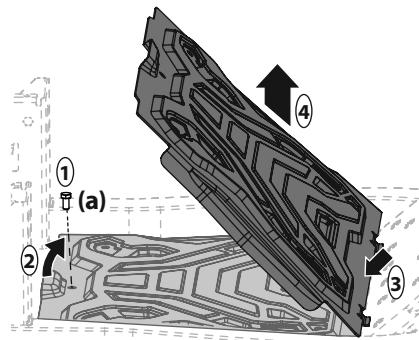

Figure 33
- Using the multi-tool (if equipped) or a 1/2" socket, remove the hex screw (a) that secures the floor panel in place. See 1 in Figure 33
- Carefully lift the rear of the floor panel. See 2 in Figure 33.
- Slide the floor panel rearward to free the front of the floor panel. See 3 in Figure 33.
- Lift it off the tractor. See 4 in Figure 33.